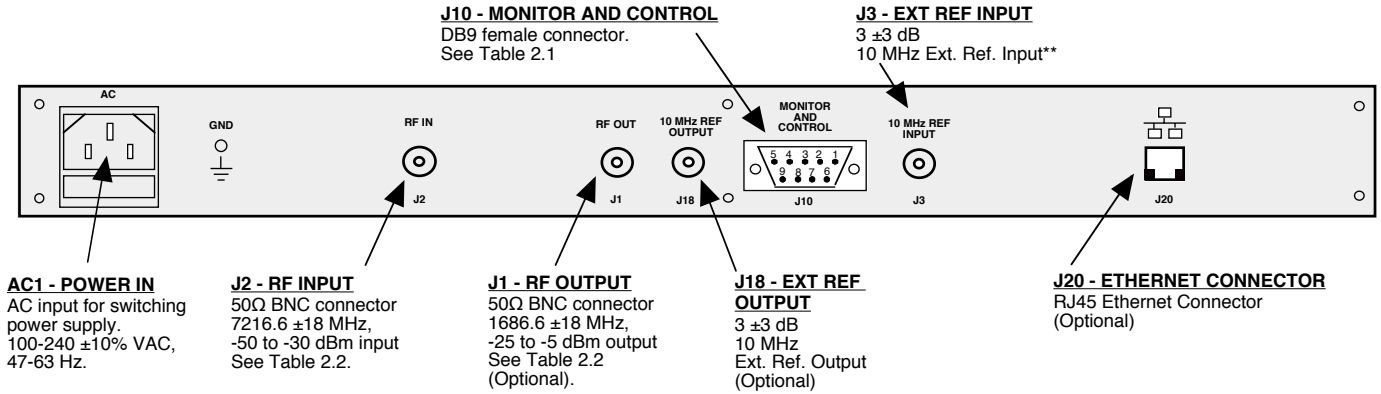

FIGURE 2.1 2083-7216# Rear Panel I/O's
Figure 2.1 shows the input and output connectors on the rear panel.
1. Connect a -50 dBm to -30 dBm signal to IN, J2 (Figure 2.1)